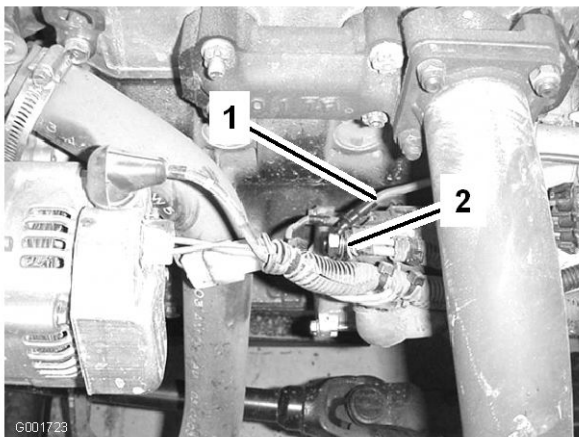

Figure 4
8. Locate the starter solenoid on the left side of the engine. Connect the red power wire on the wiring harness to the front of the solenoid (Figure 4).